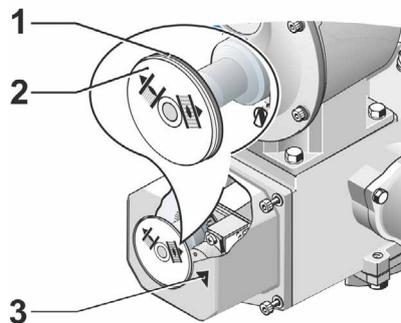

Fig. 2: Adjust position indicator
3. Turn white disc with CLOSED symbol (fig. 2, item 1), until the symbol and the arrow (3) are aligned in the indicator glass of the cover.
5. Hold white disc (1) in position and turn transparent disc (2) so that the OPEN symbol and the arrow (3) are aligned.